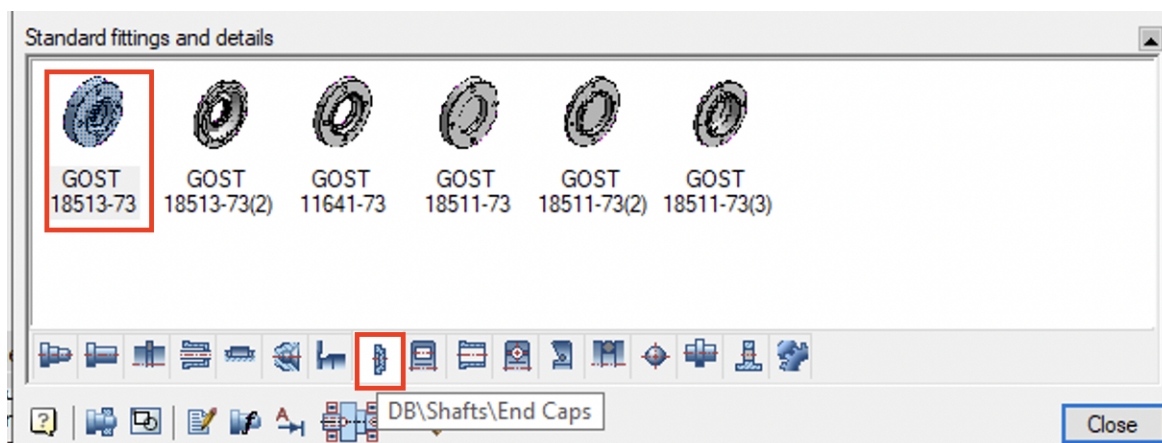

Fig. 24. End cap selection
3.2. In the **DB/Shfts/End Caps** section of the **Edit shaft** dialog box, select the cover of GOST 18513-73 (Fig. 24).